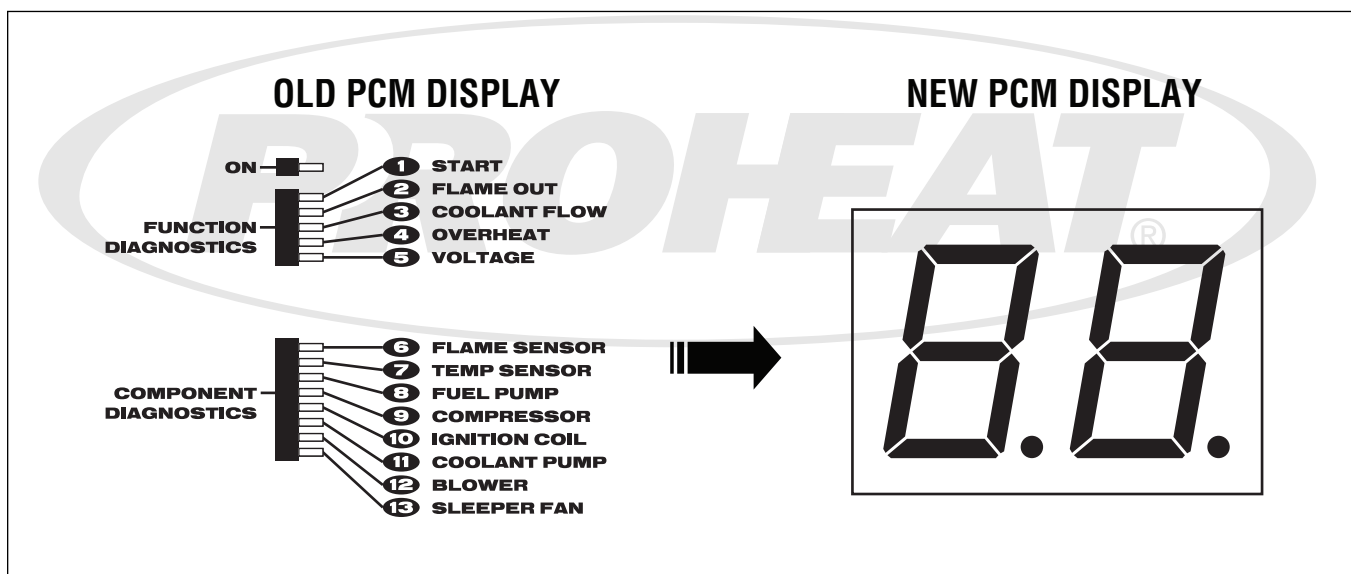

Figure 2: Comparison of the original G-II PCM to the new G-III PCM display.
- Figure 2: Original G-II PCM display with single LED lamps and new G-III PCM display with 2x7 segment LEDs.